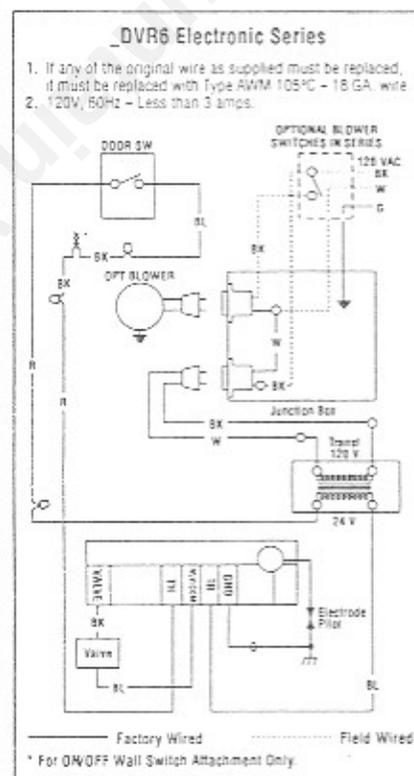

Figure 24
Step 7. Field Wiring Electronic Appliances – Regardless of whether an optional forced air blower kit is to be installed now or sometime in the future, the appliance must be connected to the main power supply. To install, route a 3-wire 120V 60Hz power supply to the appliance junction box (located in the lower right side of the appliance) and ground. Also, locate and install the low voltage (24V) wall switch in the desired location, connect the low voltage wire to this switch and/or install thermal snap switch in series. Refer to the installation instructions provided with the forced air kit. (Figure 24).